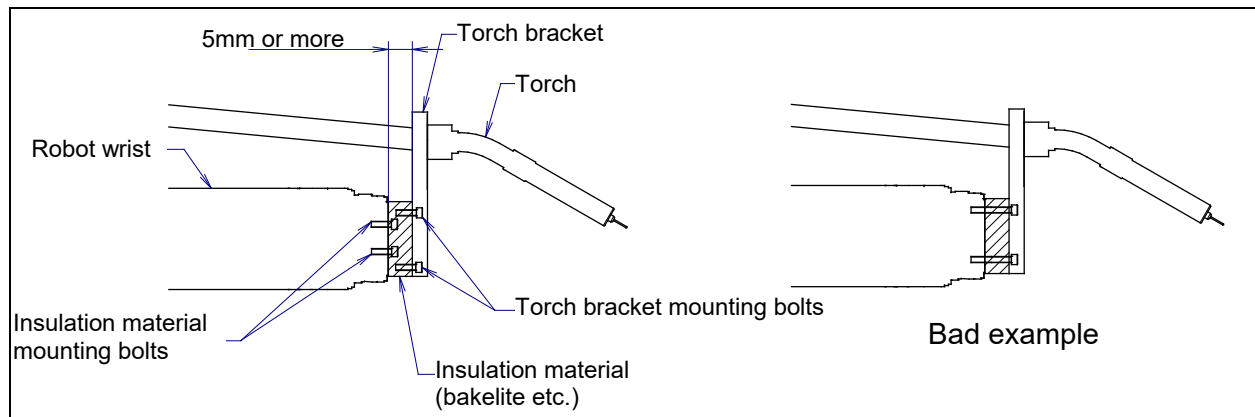

Fig. D.1 (a) Insulation at the wrist
- Insulate the end effector mounting surface. Insulation material which is inserted between the end effector mounting surface and the welding torch bracket must be different, and bolt them separately referring to Fig. D.1 (a).